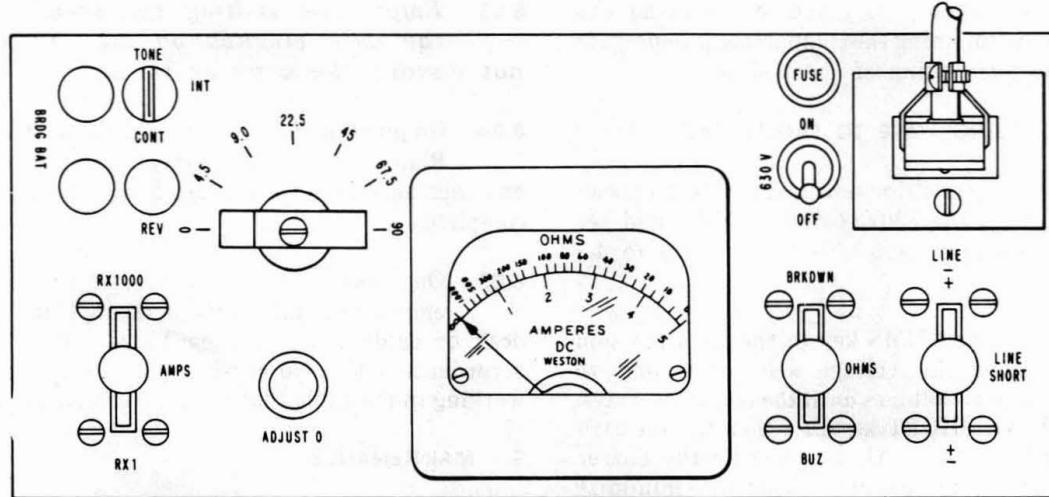

Fig. 16—Making Breakdown
**7.09** Make the breakdown tests as follows: (See Fig. 16 for controls.)